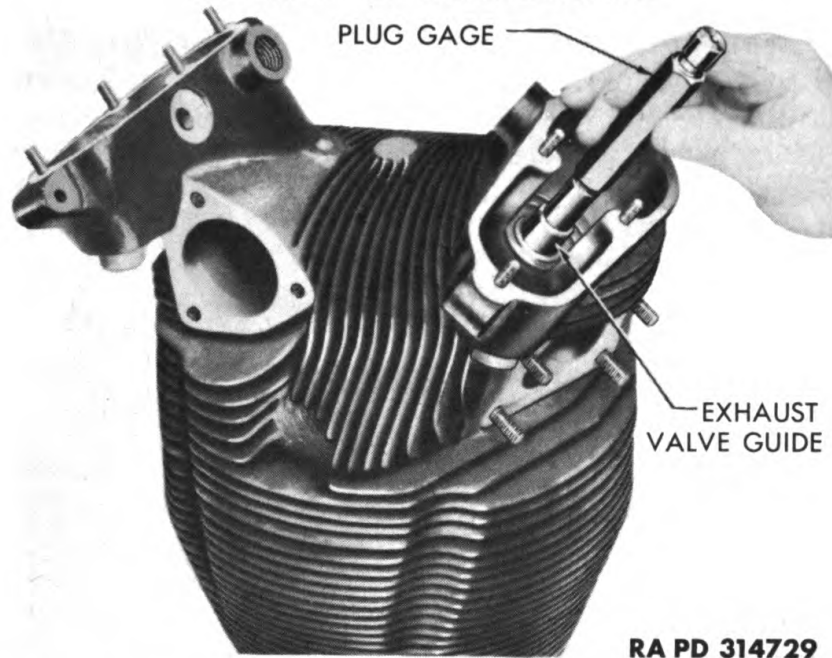

Figure 106 – Measuring Valve Guide Using Gage 41-G-254-285
(5) **VALVE GUIDES**. Inspect valve guides for tightness in cylinder head, backing out, cracks, and scoring of the inside diameter. With micrometer or special plug gage, measure inside diameter of valve guides for wear, out of round, or bellling out at the ends (fig. 106). Measure guide diameter at two locations, 90 degrees from each other, at each end of guide, to determine out of round condition. Replace guides which are damaged, worn beyond allowable limits, or are out of round. Intake guides should have an inside diameter measuring between 0.530 and 0.531 inch; exhaust guides an inside diameter measuring between 0.6235 and 0.6245 inch. To replace guide, drill guide until a shell approximately 0.015 inch thick remains. Break out shell, being careful not to damage guide retaining hole. Various sized replacement guides are provided. Select replacement guide, and ream retaining hole so that the guide will fit the hole tightly. Heat the cylinder to 300° F. Freeze the guide. Install guide in retaining hole making sure that it is properly seated. Allow cylinder to cool. Ream inside diameter of guide to fit valve stem. Clean guide bore with crocus cloth, and reseal valve seats (subpar. (6)*b*, below). *NOTE: Replacement of valve guides is normally a manufacturer's operation performed at time of cylinder barrel replacement.*